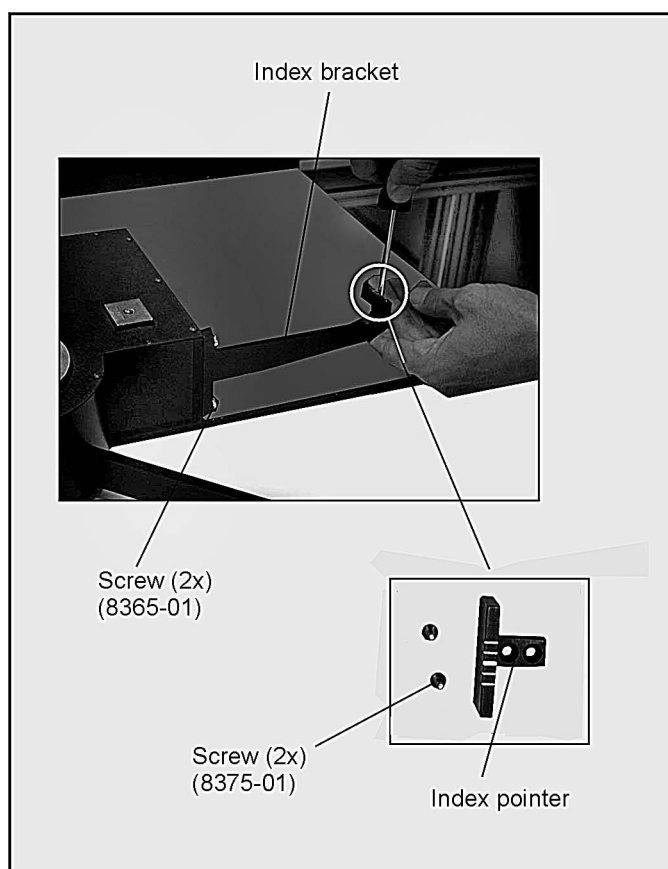

Figure 6: 8/10 station carousel index bracket components
1. Mount the index bracket (8322-01 or -02) to the right side of the carousel housing assembly, using the two screws (8365-01) supplied from the index bracket kit. See figure 6.
2. Mount the index pointer (8383-01 or 8527-01) on to the index bracket, using two screws (8375-01) supplied from the index bracket kit. See figure 6.